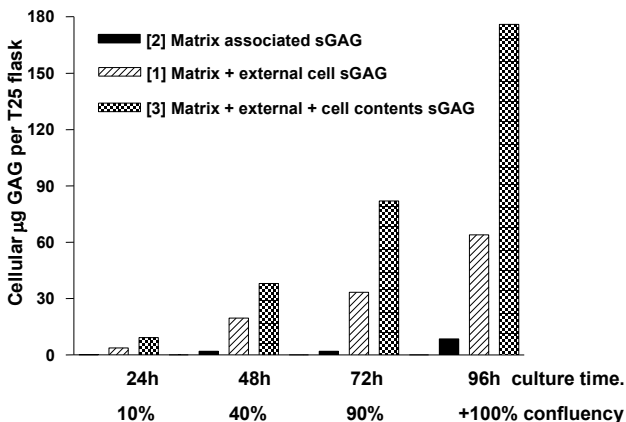

Fig. 4: CHO cells cultured in a T-25 flask.
(1) sGAG attached to the external surface of the cell (Fig. 4).
(2) sGAG from the extracellular matrix after cell removal (Fig. 4).
(3) sGAG external & internal cell contents (Fig. 4).